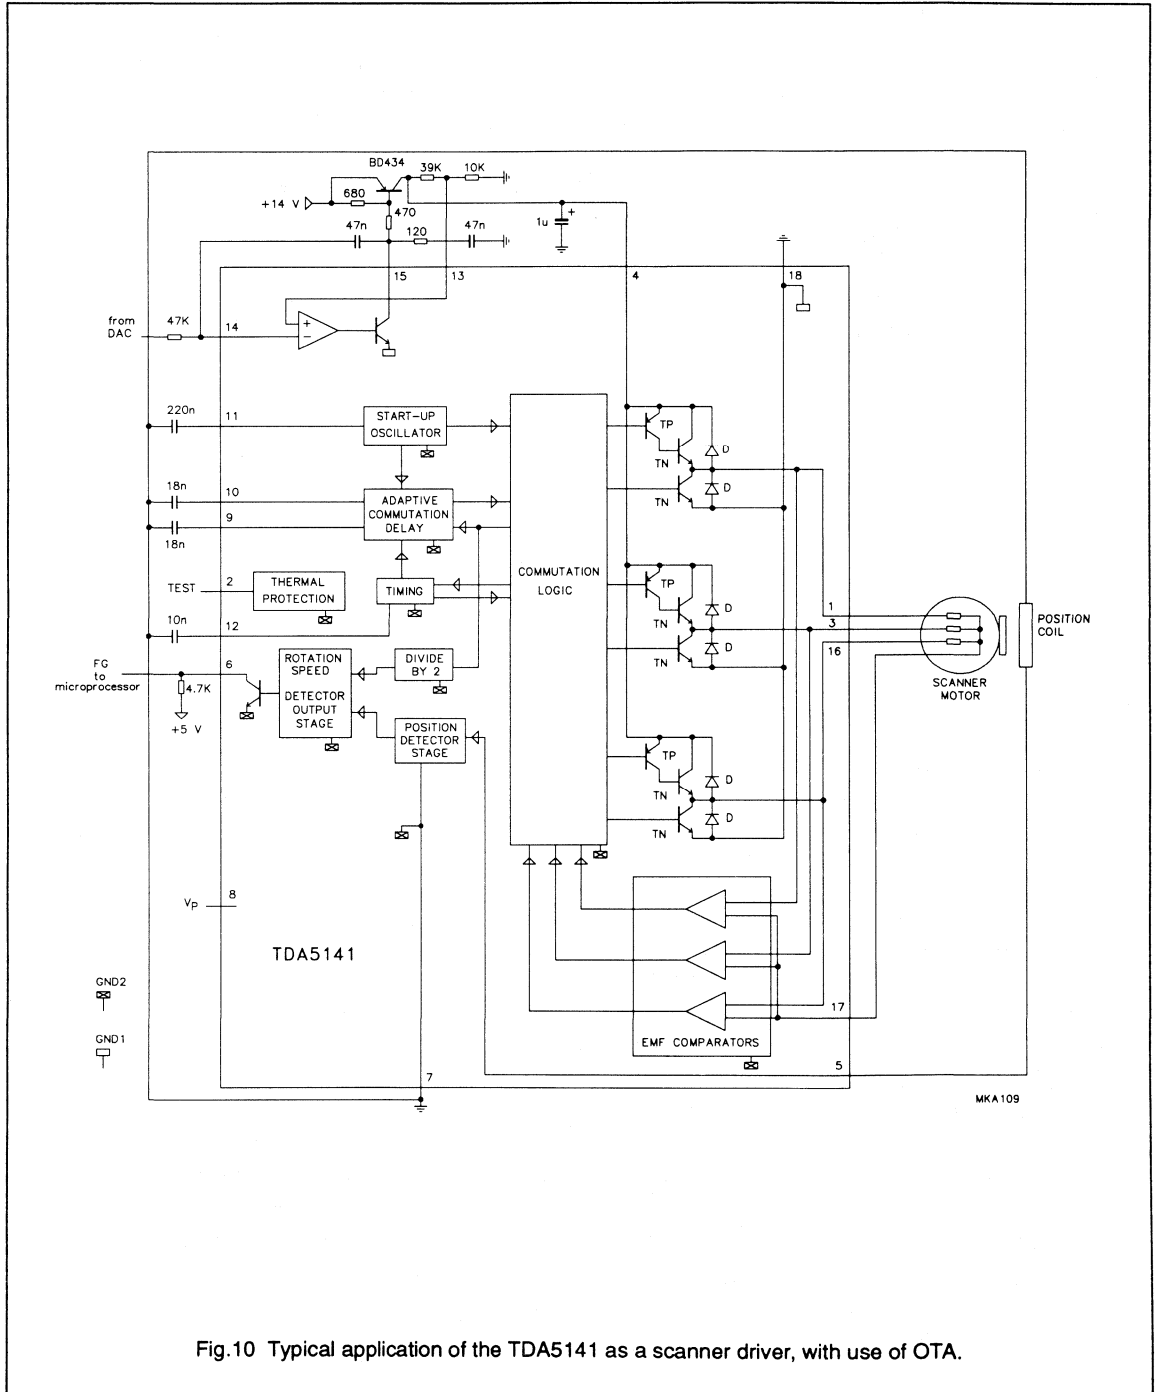

Fig.10 Typical application of the TDA5141 as a scanner driver, with use of OTA.
Introduction (see Fig.10)
- With analog control an external control transistor is required. The OTA can supply the base current for this transistor and act as a control amplifier (see Fig.10).
An alternative method of voltage control is to increase the output impedance for a certain frequency, such as the commutation frequency; the circuit illustrated by Fig.10 uses this method. The low output impedance increases to approximately $10\ \Omega$ at 900 Hz. This circuit diagram is an example of the application of the TDA5141 with a VTR scanner for a PAL recorder running at 1500 rpm. The input signal is a PWM 5 V signal. The FGPG signal is read by a microprocessor that runs the servo control program.